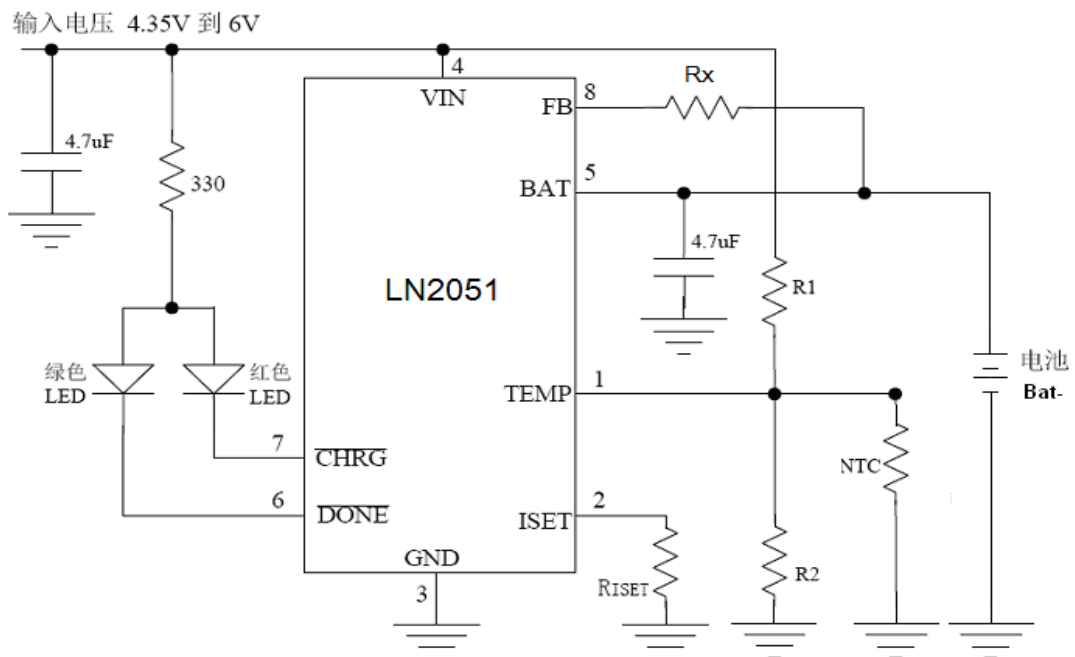

Figure 3.
If connect a resistor between the LN2051 battery voltage Kelvin test input pin (FB) and the positive battery , it can increase the battery charging voltage, as shown in Figure 3, then the positive battery voltage Vbat is: